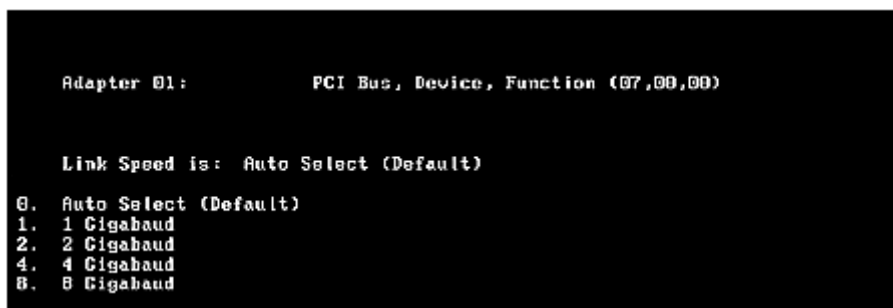

Figure 19: Link Speed Selection menu
2. Select **<11>**, Link Speed Selection (Figure 19).